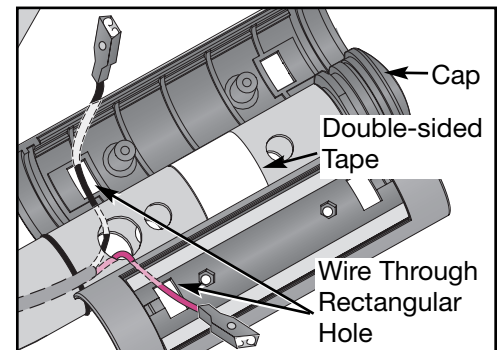

Figure 29
- D. Place each plastic grip near the handrail and pull each wire through a rectangular hole. See Figure 29. **NOTE: Don't let the wires slip back into their holes.**
- E. Fit the three plastic parts in position (the housing (2) and the cap (1)) and continue holding all plastic parts through the next step. See Figure 29.